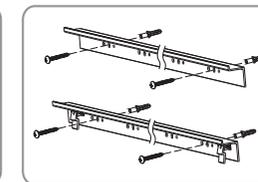

Figure 20
- b) Concrete wall mounting: to use an electric drill to drill 4 holes (2 holes for each bracket), and hammer the provided tapping anchors into each hole, then fix the brackets onto the wall by fastening the tapping screws to the tapping anchors. (Figure 20)